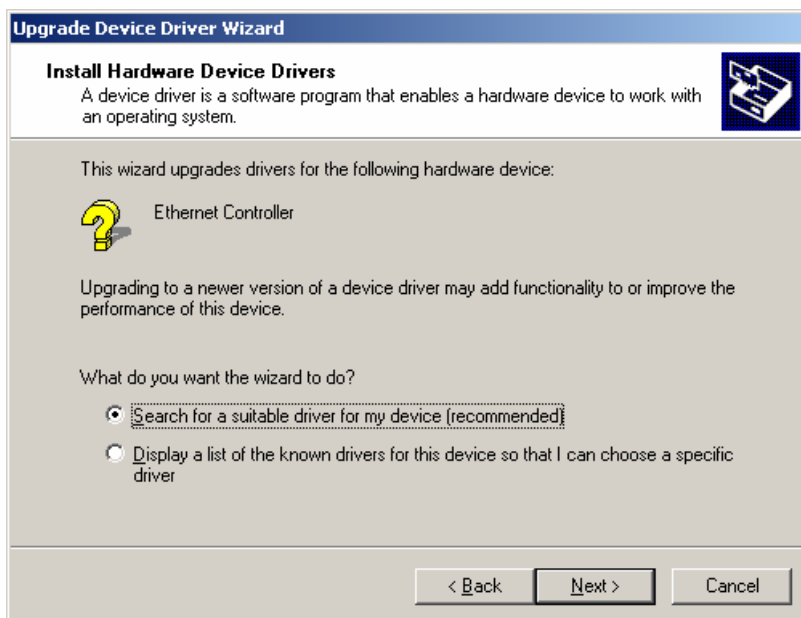

Figure 2-29 [Install Hardware Device Drivers] dialog box
- 6) In the [Install Hardware Device Drivers] dialog box, select [Search for suitable driver for my device]. Click <Next> to continue. See Figure 2-29.